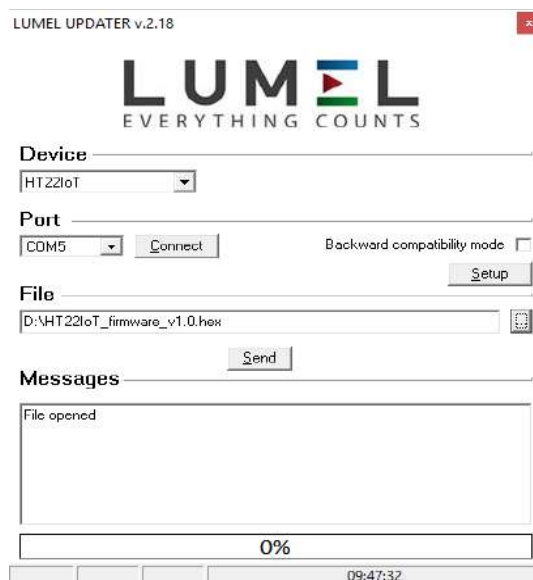

Fig. 23. View of the program to upgrade the firmware.
After starting the eCon program the speed, mode, the monitor IP address and RS-485 port must be set in the **Communication** tab. Then click the icon. **Connect**. Then click the link **Upgrade firmware** which will display the window of LUMEL UPDATER (LU) – **Fig. 23**. Click the **Connect** button **Messages** information window contains info about the progress of the upgrade process. When the port is properly opened the display shows: **Port opened**. Switching to the upgrade mode is performed remotely via LU (based on the settings in eCon or the website - address, mode, speed, COM port) - upgrade according to the recommended communication parameters, i.e. speed 115200 kb/s, 8N2 mode. If the monitor establishes communication with LUMEL UPDATER the following message is displayed in LU program **Device found: HT22IoT** and the version of the main program and the bootloader of the connected device, and the monitor display will show the message "Device is ready." Then, while pressing the button „ ... ” load the file with the new version of the software in LUMEL UPDATER. When the file is properly opened, LU program displays information **File opened**. Press the **Send** button. During upgrade, the percentage update progress is displayed on the bottom row of the display. After successful upgrade the monitor switches to normal operation, and the information window shows **Done** and the upgrade duration.